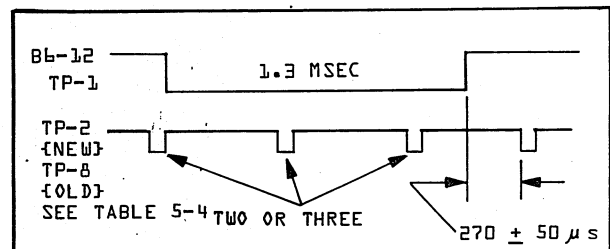

FIGURE 5-28. CHARACTER ADJUSTMENT
15. Refer to Table 5-4 and monitor Ref. B on 7PC3 and adjust P1 so that Ref. B goes negative 220 to 320 usec after B6-12 (TP1) trailing edge switches. See Figure 5-28.